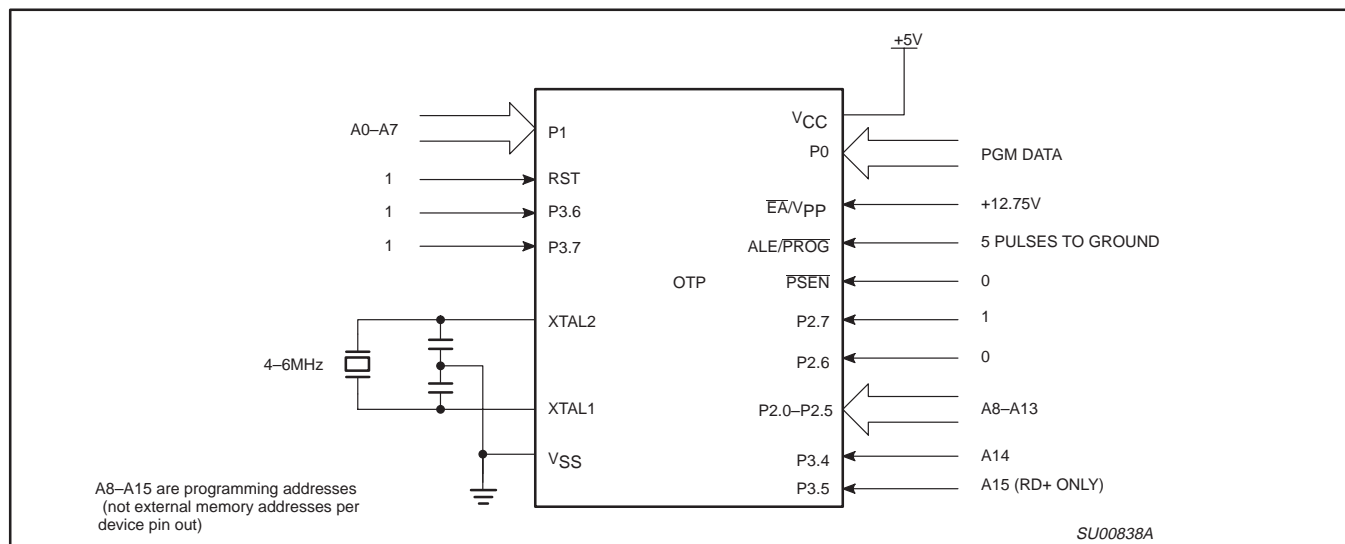
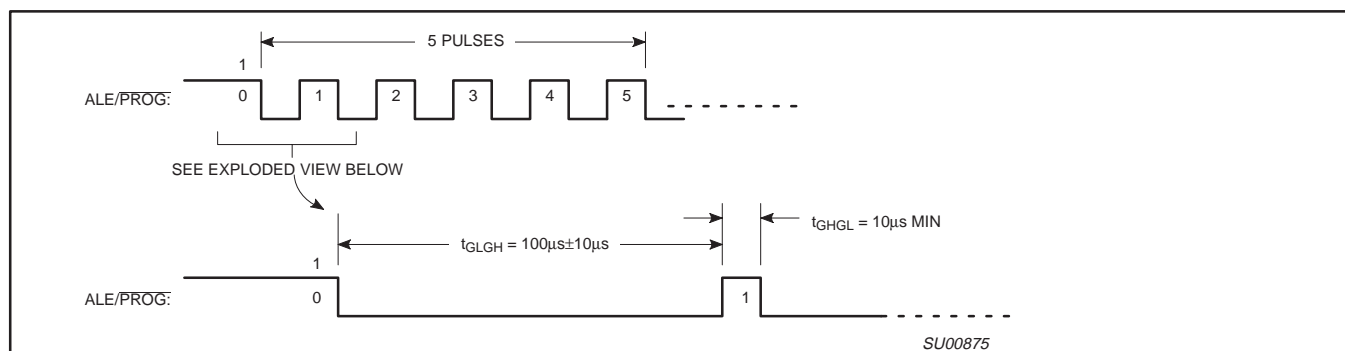
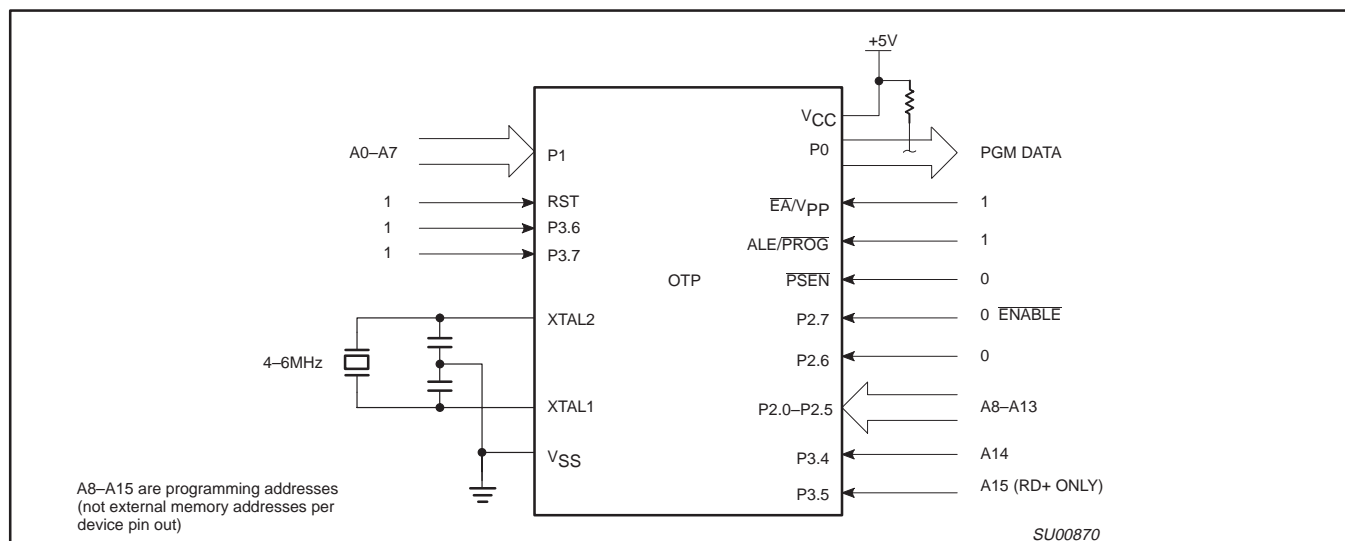

Figure 41. Programming Configuration
Figure 42. PROG Waveform
Figure 43. Program Verification
Table 9 shows the logic levels for reading the signature byte, and for programming the program memory, the encryption table, and the security bits. The circuit configuration and waveforms for quick-pulse programming are shown in Figures 41 and 42. Figure 43 shows the circuit configuration for normal program memory verification.
The setup for microcontroller quick-pulse programming is shown in Figure 41. Note that the device is running with a 4 to 6MHz oscillator. The reason the oscillator needs to be running is that the device is executing internal address and program data transfers.
The address of the EPROM location to be programmed is applied to ports 1 and 2, as shown in Figure 41. The code byte to be programmed into that location is applied to port 0. RST, \overline{PSEN} and pins of ports 2 and 3 specified in Table 9 are held at the 'Program Code Data' levels indicated in Table 9. The ALE/PROG is pulsed low 5 times as shown in Figure 42.
address of the program memory locations to be read is applied to ports 1 and 2 as shown in Figure 43. The other pins are held at the 'Verify Code Data' levels indicated in Table 9. The contents of the address location will be emitted on port 0. External pull-ups are required on port 0 for this operation.
* FOR PROGRAMMING CONFIGURATION SEE FIGURE 41.
FOR VERIFICATION CONDITIONS SEE FIGURE 43.